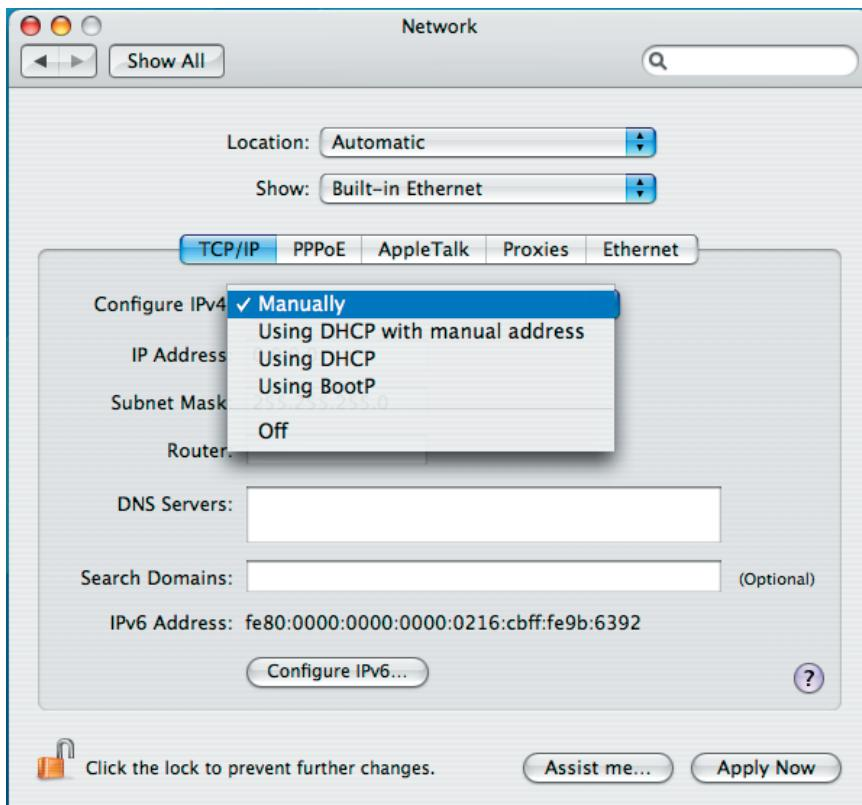

Figure 3-5. Configure IPv4 Menu Selection on the TCP/IP Setup Screen
Step 3: Under Configure IPv4 click Manually from the menu selection (Figure 3-5).